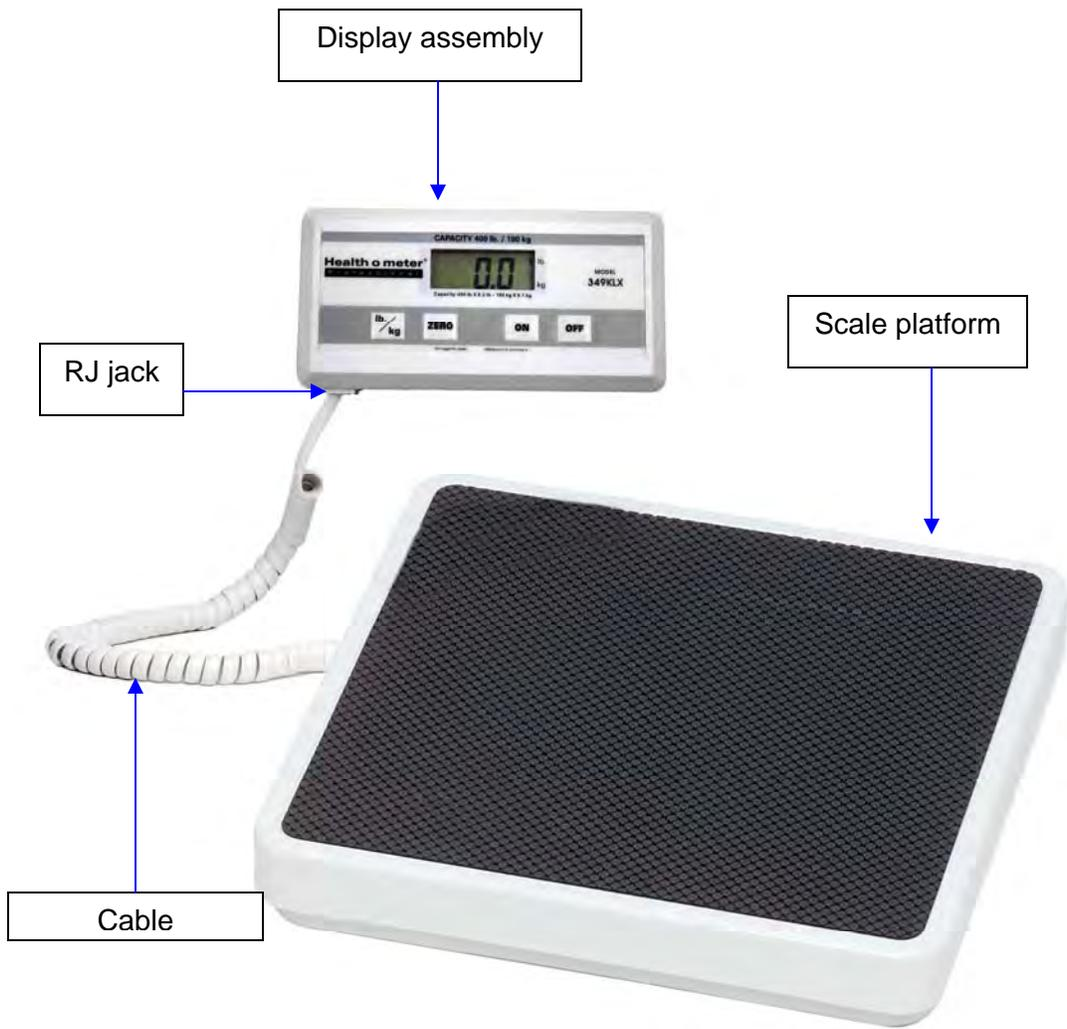

Figure 3
1. Carefully remove the scale platform and display assembly from the carton, and place the scale platform and display assembly on a flat, level, and dry surface (see Figure 3).